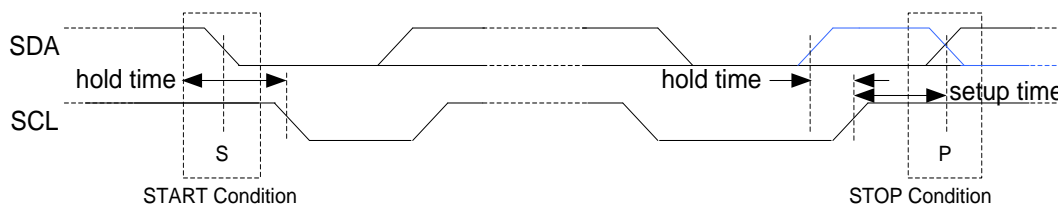

Figure 31. START and STOP (or repeated START) condition
The idle I²C bus state occurs when both SCL and SDA are not being driven by any master and are therefore in a logic HI state due to the pull up resistors. Every transaction begins with a START (S) signal and ends with a STOP (P) signal. A START condition is defined by a high to low transition on the SDA while SCL is high. A STOP condition is defined by a low to high transition on the SDA while SCL is high. START and STOP conditions are always generated by the master. This slave module also supports repeated START (Sr) condition which is same as START condition instead of STOP condition (Blue color line shows repeated START in Figure 31).